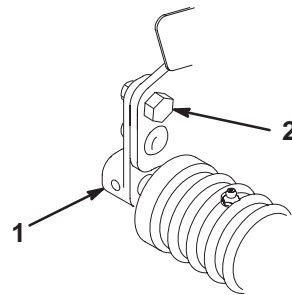

Figure 4
3. Loosen the locknuts retaining the right front roller bracket (Fig. 4).
4. While holding the reel securely on the plate and maintaining pressure on the front roller, rotate the upper right roller mounting bolt (Fig. 4). This mounting bolt has an offset, which when rotated, acts as an eccentric (cam) to raise or lower the roller. On the bolt head there is an I.D. dot which denotes the offset of the bolt. The dot indicates in which direction the right end of the roller moves when the bolt is turned.